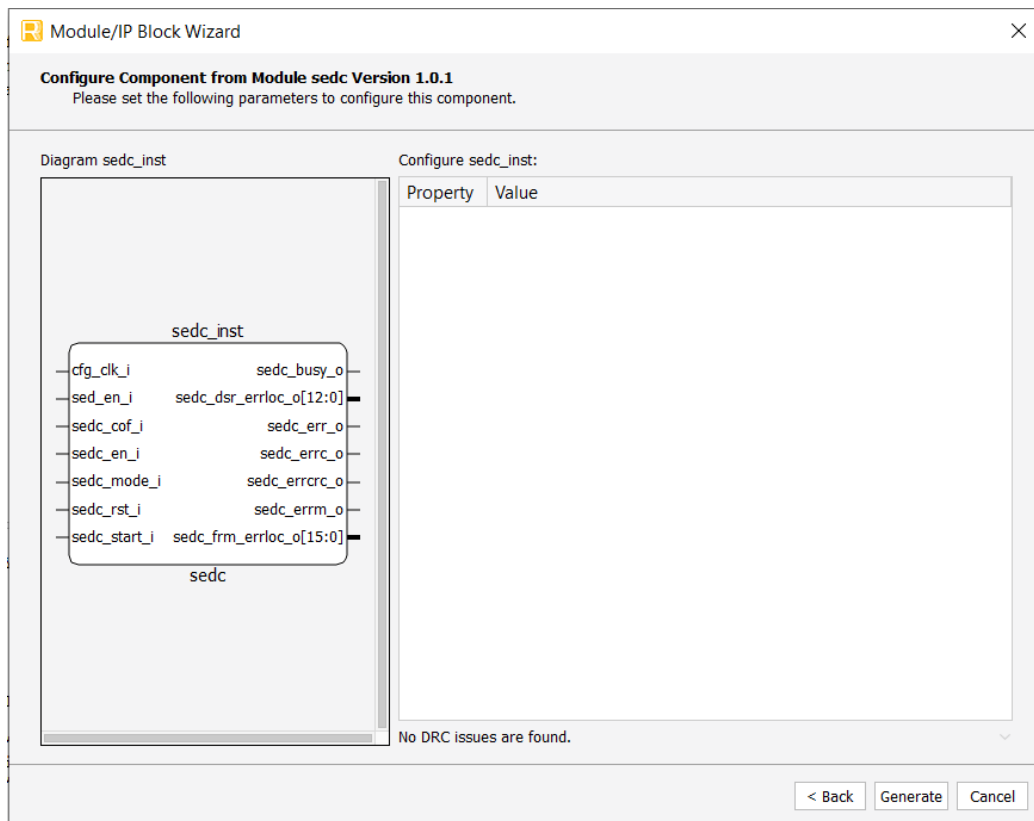

Figure 3.3. Configuration Window
4. Update the configuration parameters as necessary as shown in Figure 3.3.
IP Generation and Evaluation	Updated Figure 3.3. Configuration Window .